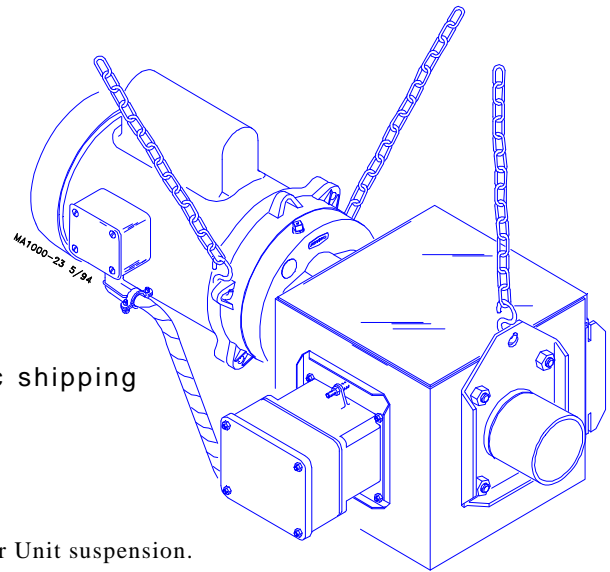

Figure 14. Control Unit/Power Unit suspension.
- g) Attach the insulated motor wires to the terminal block in the control housing: one wire to terminal three (3) and one wire to terminal four (4). Attach the bare grounding wire to one of the green colored screws provided for bonding the grounding wires.
5. Support the Power Unit and Control Unit securely. Points are provided at the gearhead and the tube anchor for hanging the equipment from the rafters with chain and "S" hooks supplied with the delivery system. See Figure 14.